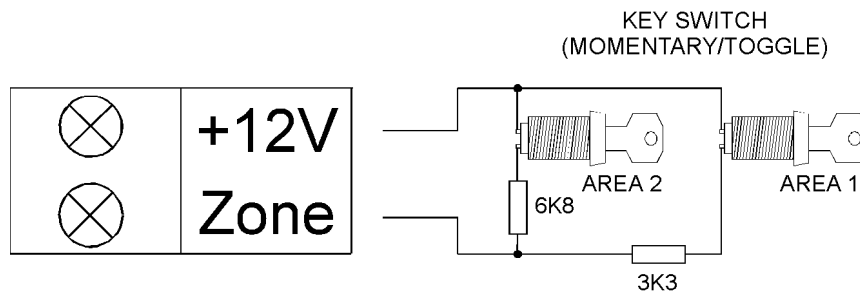

Figure 4: Wiring Diagram For Keyswitch Zone In Partitioning
- Note 2:** When using a keyswitch zone in partitioning, to enable arming/disarming of Area 2, there is no need to enable split EOL resistors when not using tamper zones. Simply wire the zone as shown in “Figure 4: Wiring Diagram For Keyswitch Zone In Partitioning”.